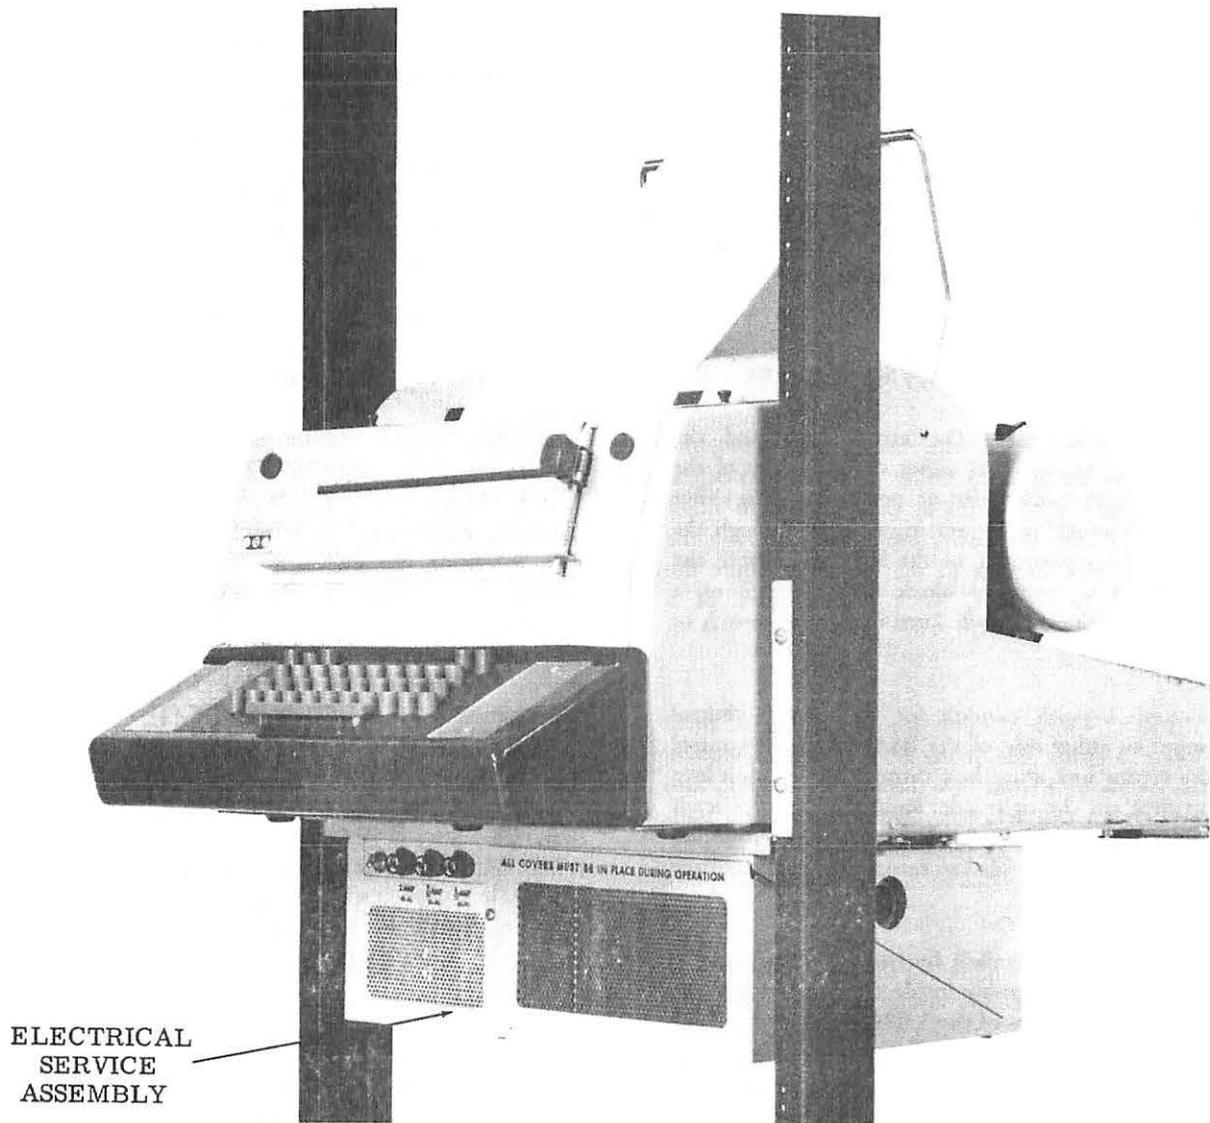

Figure 7 - Rack Mounted Keyboard Send-Receive (KSR) Set
F. Rack Mounted Keyboard Send-Receive (KSR) Set (Figure 7)
3.26 Remove and retain the access plate and its mounting hardware at either or both sides of the electrical service assembly (ESA). Fasten 3/4-inch conduit for the ac power input to either side of the ESA. Route the power input leads through the conduit into the compartment on the left side of the ESA. Route the power leads to terminal block (TA) located on a bracket attached to the rear wall of the ESA. Turn the power switch to the OFF position.